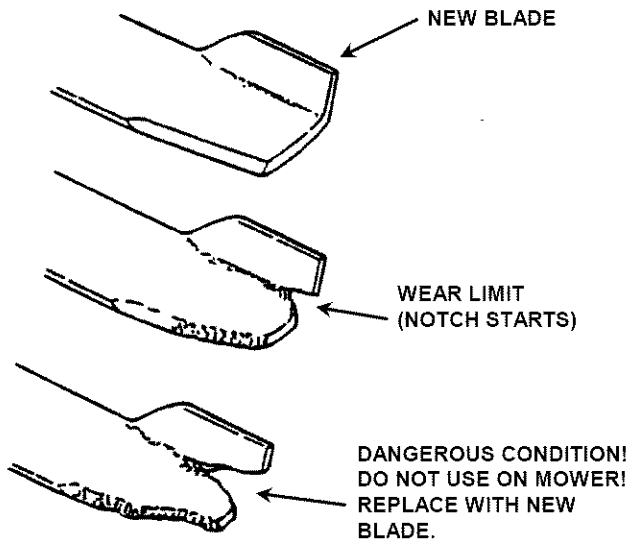

FIGURE 4.9
Check Blades at frequent intervals to insure they are securely tightened and in good condition. Replace if chipped, bent, or notched. See Figure 4.9 for Blade wear limits.
3. Clean and inspect each Blade for excessive wear and damage. Refer to Figure 4.9 for Blade wear limits.